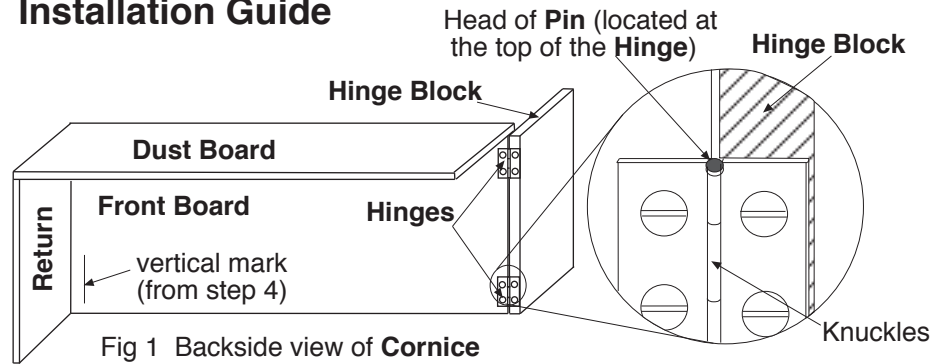

Fig 1 Backside view of **Cornice**
The cornice should have the hinged side left open so that it can be attached to a hinge block, see fig 1 and 5 on page 2. Plywood $\frac{5}{8}$ " or thicker should be used for the front board, and 1" lumber should be used for the dust board, return and hinge block. The cornice could be covered with cornice board padding and fabric, or painted. If a soft top treatment, such as a swag or valance, is used, a front board, fig 1, is still needed to provide extra support and a place to mount the Slot-Track. The soft top treatment can be attached to the dust board, and a return flap can be attached to the hinge block with hook and loop. If there is a drapery rod underneath the cornice, install rod below the Slot-Track on the cornice or the door.
1. Attach the two **Hinges** to the **Hinge Block** and the **Front Board** as shown in fig 1 and 5. The knuckles of the **Hinges** should be facing out. The distance between two **Hinges** should be as large as possible to better support the **Cornice**. The head of the **Hinge Pin** should be on top of the **Hinge** to prevent the **Pin** from dropping out.
4. Attach **Cornice** to the **Hinge Block** by reinserting **Hinge Pins** from top to bottom (head of the **Hinge Pin** on top). Close the **Door** and **Cornice**. Make a vertical mark on the back of **Front Board** corresponding to the vertical edge of the **Door** opening for installing the **Slot-Track** as shown in fig 1 and 3.